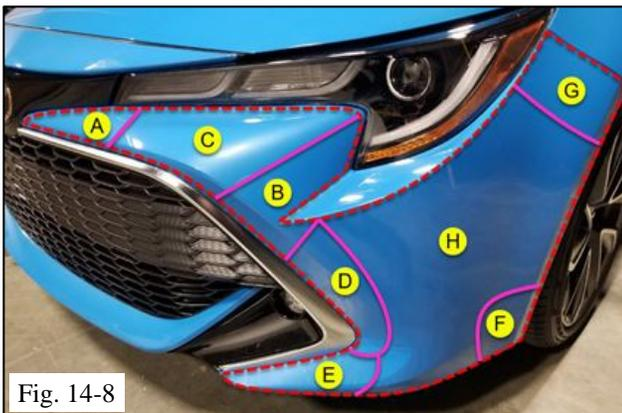

Fig. 14-8
- (h) Remove the remaining solution from beneath the material pushing it out through the open edges. Never attempt to push solution back through an area that has already been secured (Fig. 14-8).